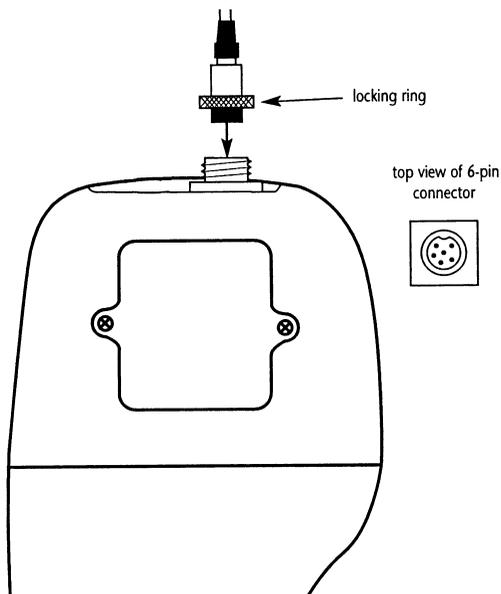

Figure 4: Connect DO Probe
1. Line up the notch and 6 pins on the probe connector with the holes in the connector located on the top of the meter. Push down and turn the locking ring to lock into place. See Figure 4 below.